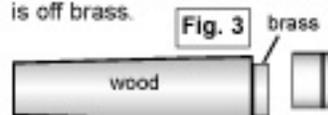

Fig. 3
- 3) Using a parting tool, remove 3/16 of material down to brass tube on the center ring end of cap. (Fig. 3) Make sure all glue is off brass.
- 1) Press center ring over exposed portion (Fig. 3) of short brass tube on cap barrel, flat end first.